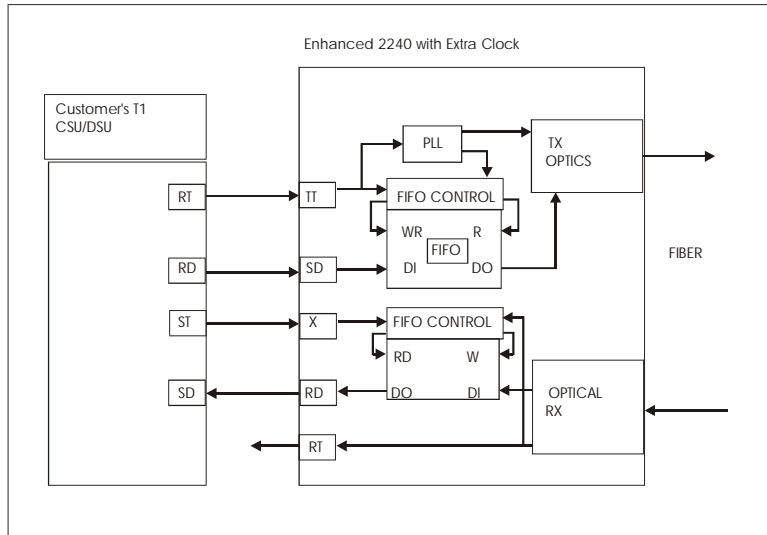

Figure 2-5.
This two-pin jumper (W26, labeled XTCLK), in conjunction with the enhanced interfaces (- 422, - 436 and - 430), allows the 2240 to accept BOTH customer clocks for *tail circuit applications*. Refer to the RS-449, V.35 and RS-530 interface sections for more information on the enhanced interfaces. This jumper causes the 2240 to shift data out (RXD) from the 2240 in sync with either the 2240's SCR (present operation) *or* the extra clock pins on enhanced interfaces. In the case of the RS-530 interface there are no unused pins, so a switch on the RS-530 interface is used to select the direction of the SCT leads (refer to RS-530 interface section). In a typical application (see Figure 2-5) these extra clock pins would be cabled to the customer's T1 CSU / DSU's SCT (ST) pins (keep in mind that the 2240s are acting as a tail circuit). This feature is also necessary if older "gapped clock" CSU / DSUs are used.
Figure 2-5 illustrates the use of extra clock pins in a tail circuit application at the clock source end.